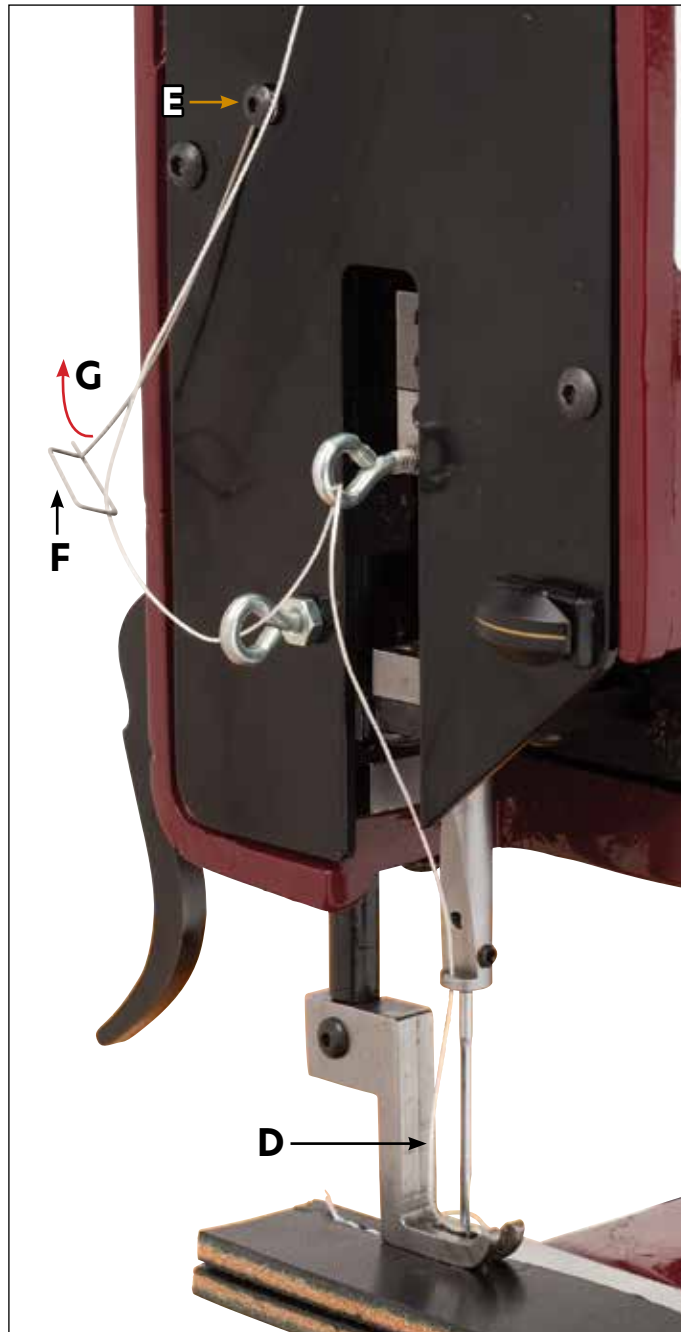

Figure 28
1) If thread balloons excessively at point **(D)**, loosen screw **(E)** and move check spring **(F)** in direction **(G)** as shown. **(Figure 28)**